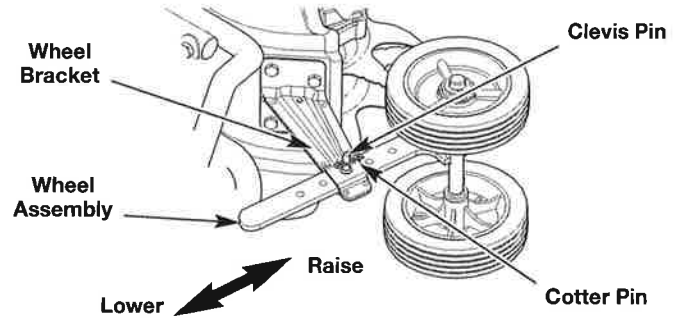

Fig. 1
1. Set the unit on its side (Fig. 1).
2. Insert the wheel assembly into the wheel bracket. The curved "J" section should point away from the unit (Fig. 1).
4. Insert the clevis pin through the aligned holes (Fig. 1).
5. Insert the cotter pin through the hole in the clevis pin (Fig. 1).
2. Remove the cotter pin from the clevis pin (Fig. 1).
3. Remove the clevis pin from the wheel assembly and wheel bracket (Fig. 1).
5. Insert the clevis pin through the aligned holes (Fig. 1).
6. Insert the cotter pin through the hole in the clevis pin (Fig. 1).